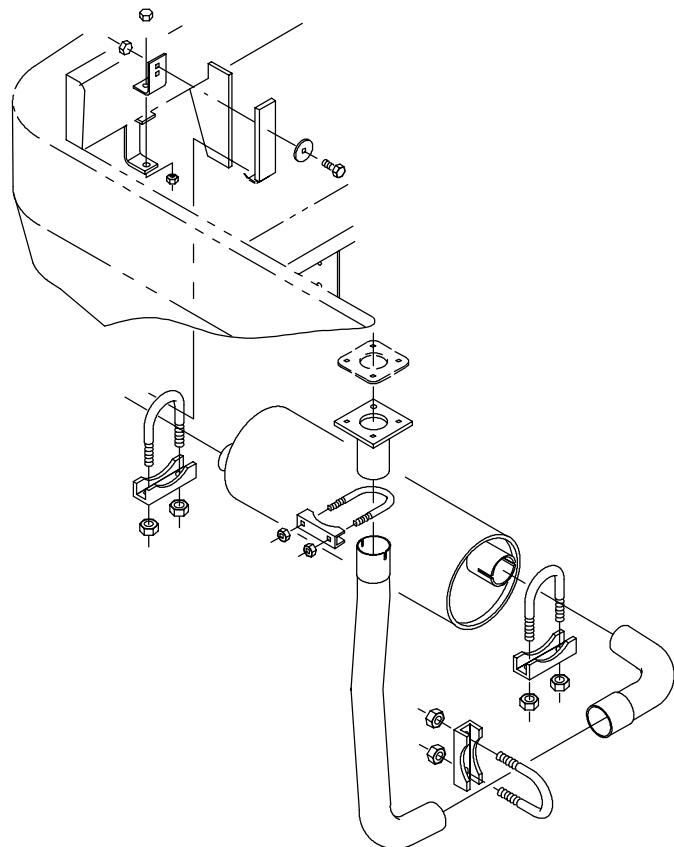

FIG. 1 - OLD EXHAUST SYSTEM REMOVAL
(Refer to FIG. 1 thru 7)
(Refer to FIG. 1 thru 4)
1. Remove old exhaust system, from exhaust pipe clamp at muffler outlet to clamp at the engine exhaust manifold outlet (including angle 374676 on machines with serial numbers greater than 8488. On older machines, remove bracket 374677 and isolator 54274. Retain strap hanger at muffler outlet. (Refer to FIG. 1)